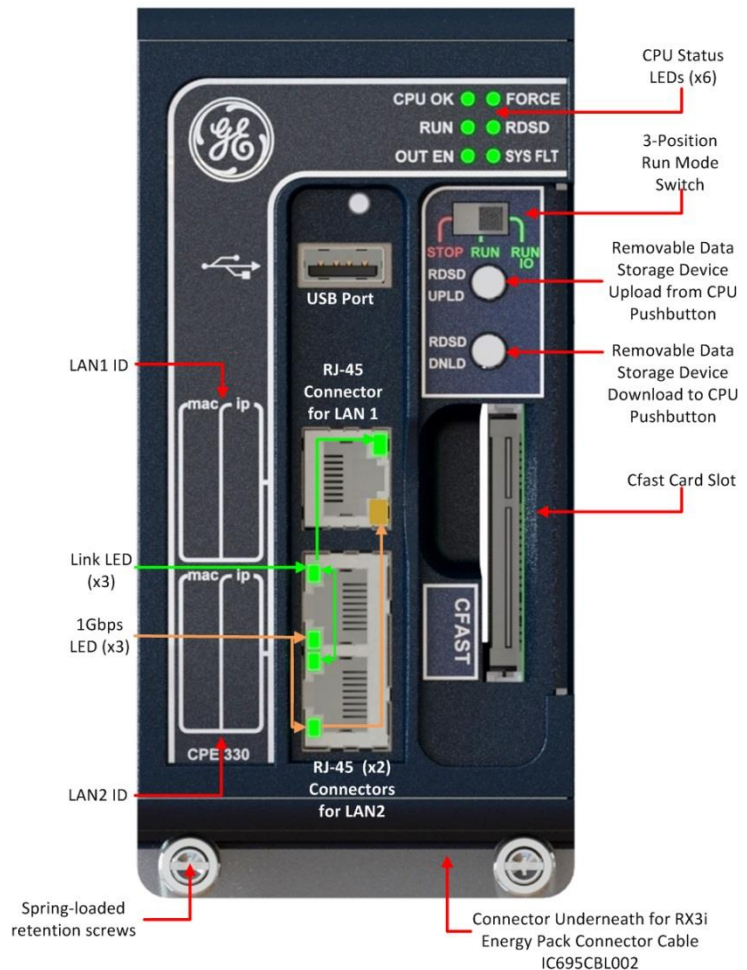

Figure 1: CPE330 Features at a Glance
- Two independent 10/100/1000 Ethernet LANs. LAN1 attaches via the dedicated (upper) RJ-45 connector shown in Figure 1. LAN2 attaches via the lower pair of internally-switched RJ-45 connectors.
- **Two Embedded Gigabit Ethernet LANs** – Two independent 10/100/1000 Ethernet LANs with three auto-negotiating, full-duplex 10/100/1000 Ethernet Ports allow support of two IP Addresses. LAN1 attached via a dedicated RJ-45 connector (upper connector in Figure 1). LAN2 attaches via a pair of internally-switched RJ-45 connectors (lower connectors in Figure 1). The embedded Ethernet interface is supported by a dedicated processor core. This significant dedicated processing capability permits the CPU to support these two LANs with: